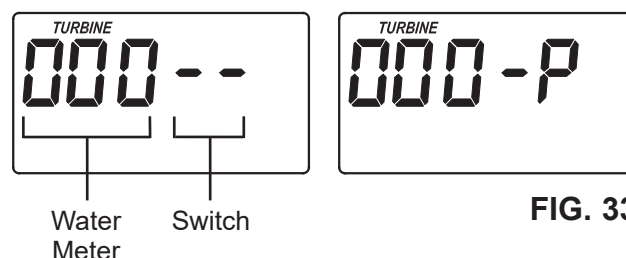

FIG. 33
1. Press and hold for 3 seconds the SELECT button, until one of the screens shown in Figure 33 is displayed.